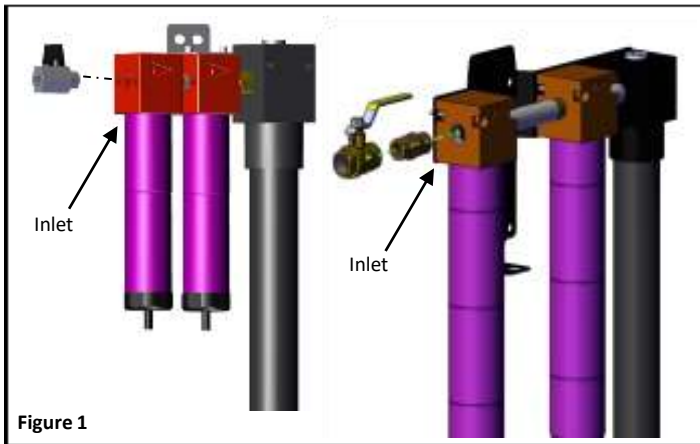

Figure 1
2. Install the supplied ball valve to dryer inlet directly or with the use of the ½" NPT hex nipple. *Figure 1*